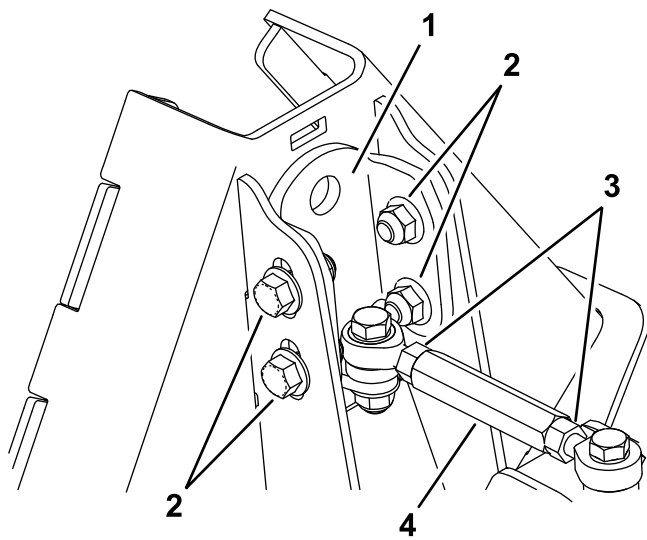

**Figure 6**
2. Remove the stop assembly from the broom lock bracket (**Figure 6**).
7. Install the stop assembly (Figure 6).